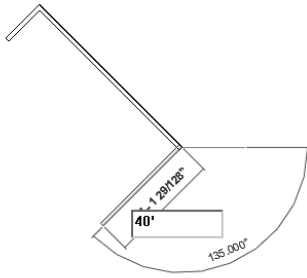

Figure 3-41 Sketching the third inclined wall segment
6. Similarly for the next wall, move the cursor downward to the left and choose the perpendicular snap override as in step 5. Enter 40'0" as length, as shown in Figure 3-41. Now, press ENTER to create the third inclined wall.